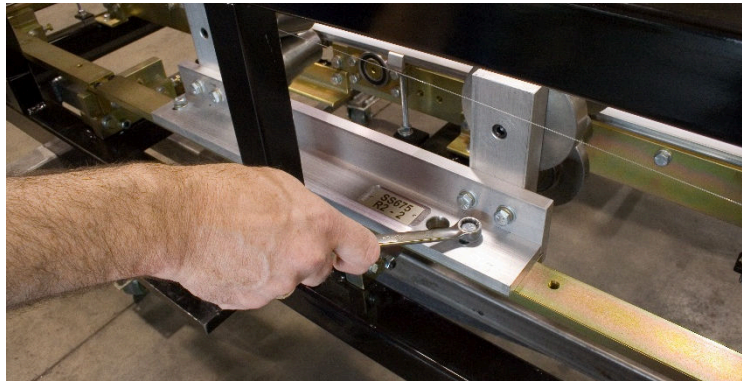

Figure 61: Removing Tooling Rails
2. Using a ½” wrench, remove the bolts holding the right and left Tooling Rails to the Fixed Rail Mounts (Figure 61). Store the tooling and set the hardware near the machine for use when installing the next profile. Note: the **SS100**, **SS150**, **SS450/450SL**, and **BP** profiles all share the same left-side rollers, so when changing between these profiles, only the right-side Tooling Rails will need to be changed. Likewise, the **FF100** and **FF150** profiles also share the same left-side rollers, so when changing between these profiles, only the right-side Tooling Rails will need to be changed.